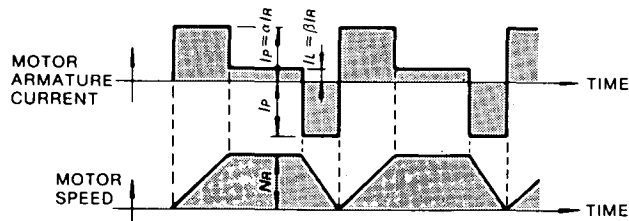

Fig. 4.5 Timing Chart of Motor Armature Current and Speed
- When the motor accelerates, runs at constant speed, and decelerates in a continuing cycle without being at standstill (Fig. 4.5).
The timing chart of the motor armature current and speed is as shown in Fig. 4.5. The allowable frequency of operation "n" can be calculated as follows.